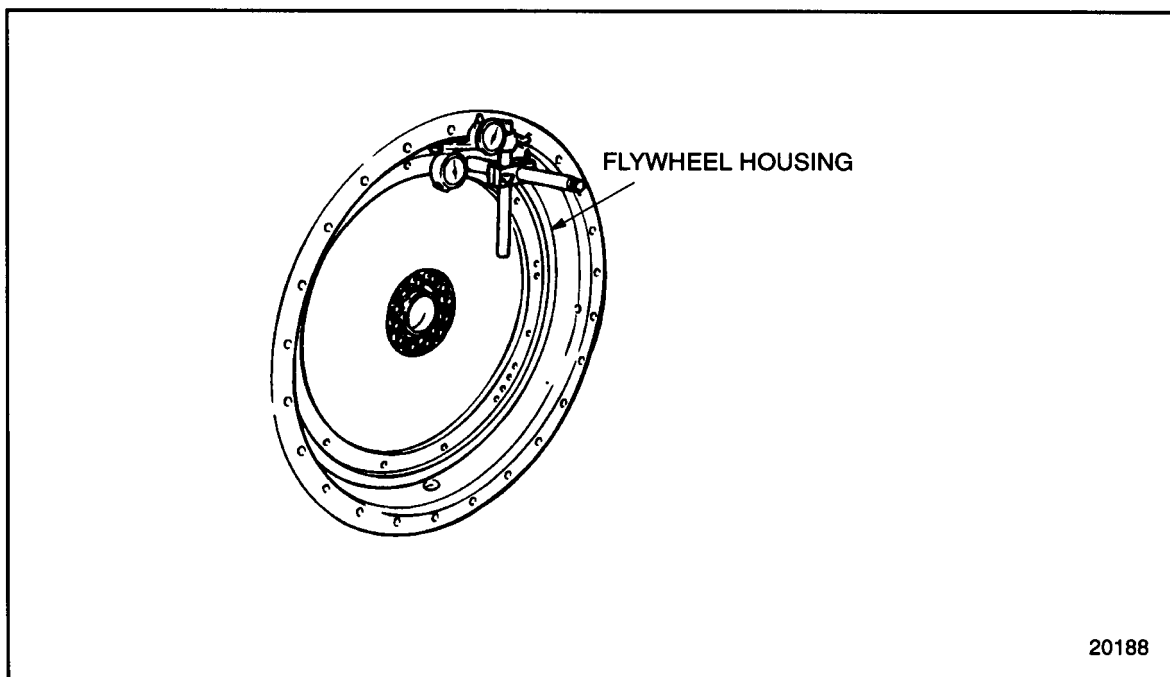

Figure 9-18 Measuring Flywheel Housing Bore Concentricity
- [c] Position the dial indicator square with the flywheel housing inside bore of the bell. Ensure the indicator has adequate travel in each direction. See Figure 9-18.